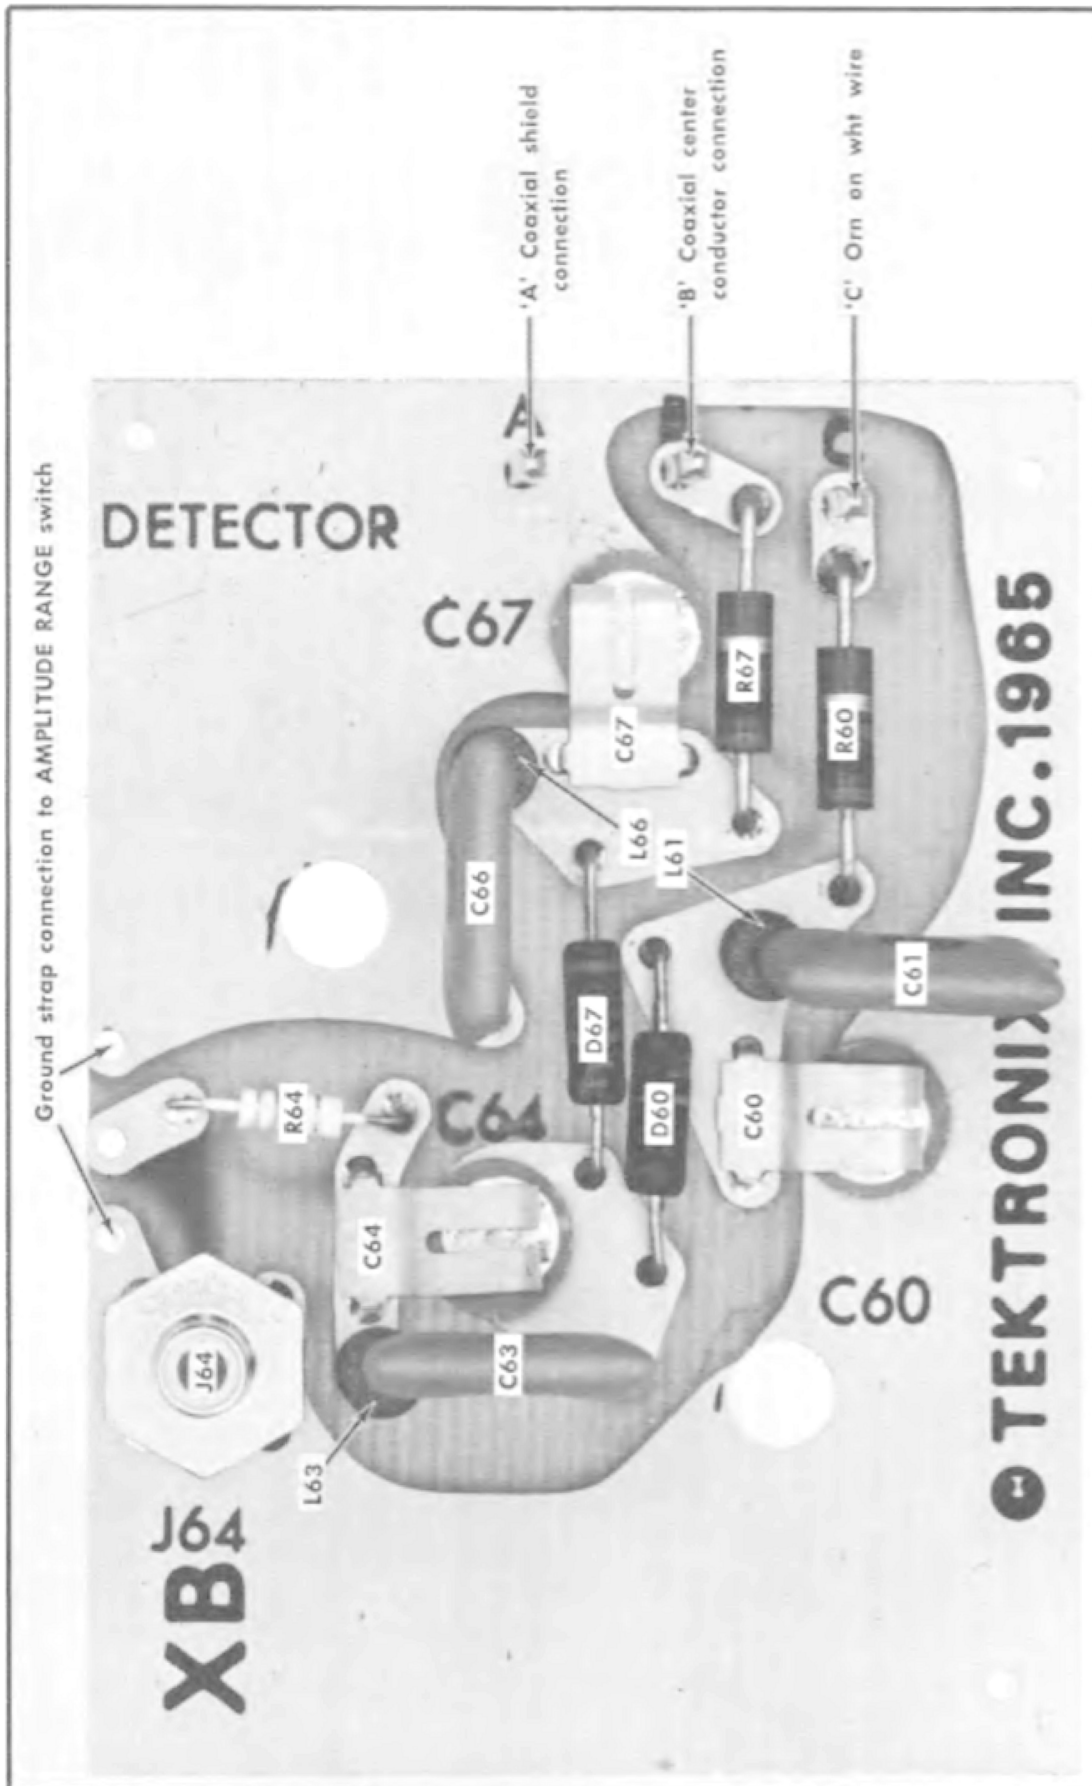

Fig. 4-3. Peak to peak detector board wiring.
**Circuit Boards.** Fig. 4-3 shows the circuit board used in the Type 191. Each electrical component on the board is identified by its circuit number. The circuit board is also outlined on the diagram with a blue line. This picture along with the diagram will aid in locating the components mounted on the circuit board.